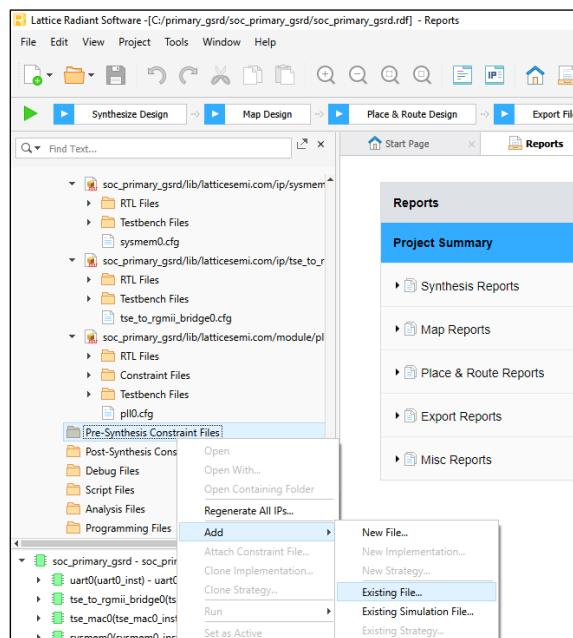

Figure 8.49. Add Existing Pre-Synthesis Constraint
- Right-click on **Pre-Synthesis Constraint Files** > **Add** > **Existing File** as shown in Figure 8.49.